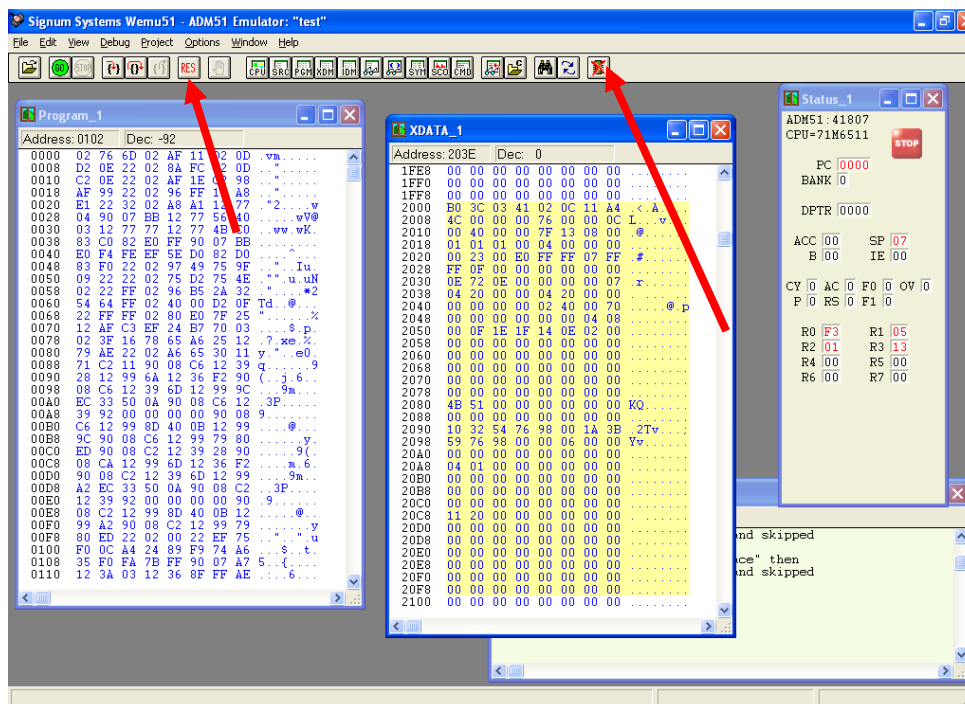
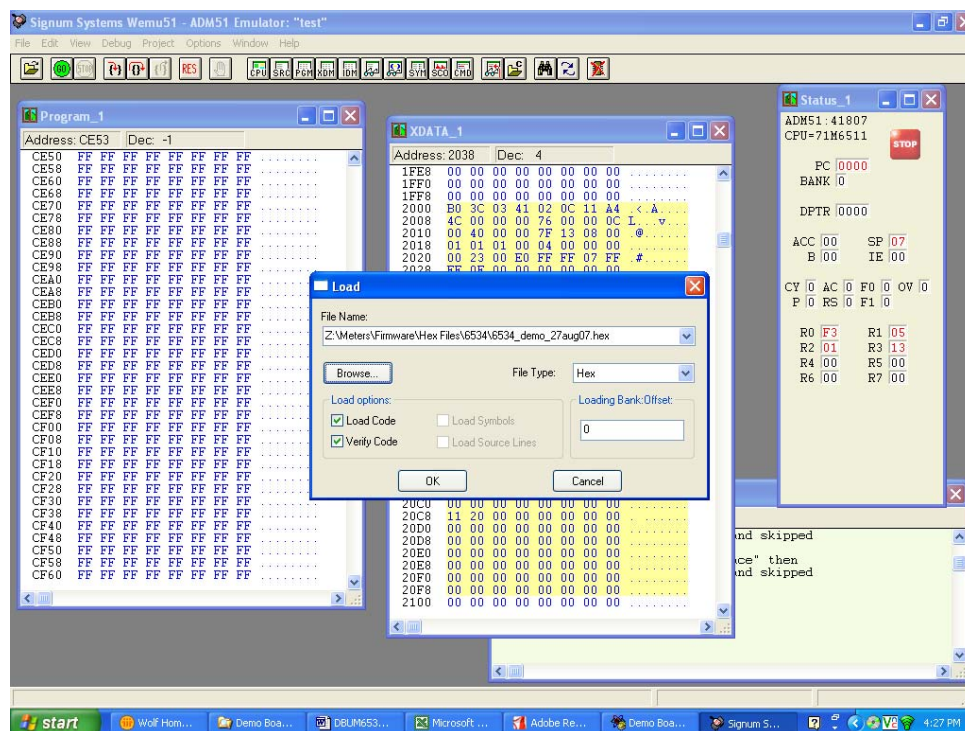

Figure 1-9: Emulator Window Showing Reset and Erase Buttons
Figure 1-10: Emulator Window Showing Erased Flash Memory and File Load Menu
**In-Circuit Emulator:** If firmware exists in the 71M6531D/F flash memory, this memory has to be erased before loading a new file into memory. Figure 1-9 and Figure 1-10 show the emulator software active. In order to erase the flash memory, the RESET button of the emulator software graphical interface has to be clicked followed by the ERASE button (Figure 1-9).
Once the flash memory is erased, the new file can be loaded using the commands File followed by Load. The dialog box shown in Figure 1-10 will then appear making it possible to select the file to be loaded by clicking the Browse button. Once the file is selected, pressing the OK button will load the file into the flash memory of the 71M6531D/F IC.